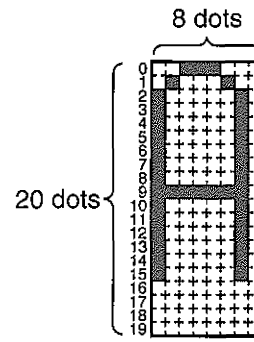

Figure 5.2
- 1) For one character: Create with 7x20 dots (Refer to Figure 5.2)